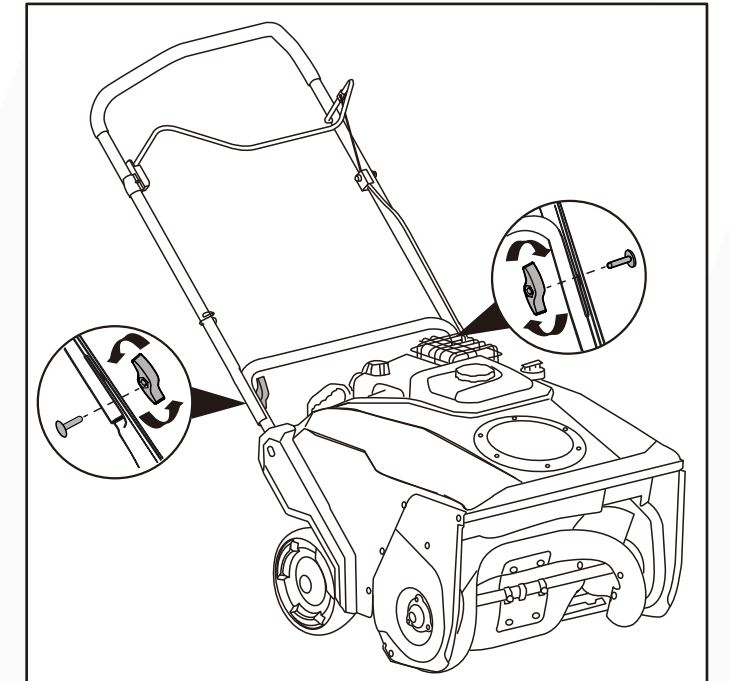

Fig.2B
2. Tighten the knobs on both sides of the handle. (Fig.2B)